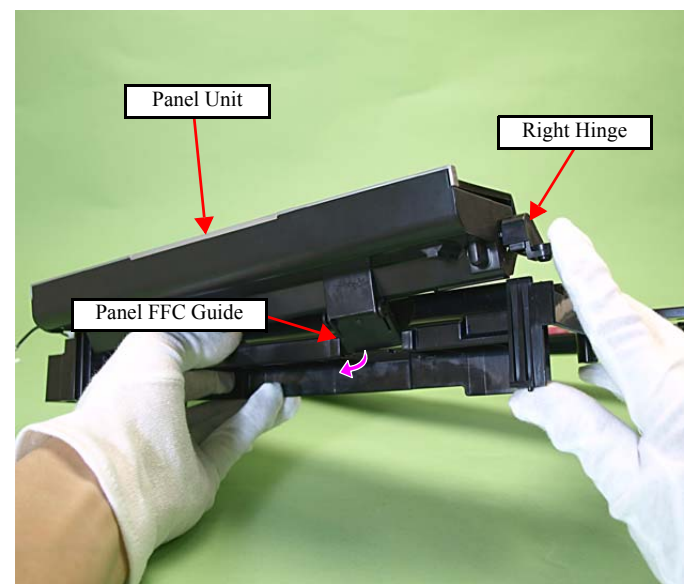

Figure 4-226. Removing the Panel Unit (1)
1. Open the Panel Unit. (See Fig. 4-226.)